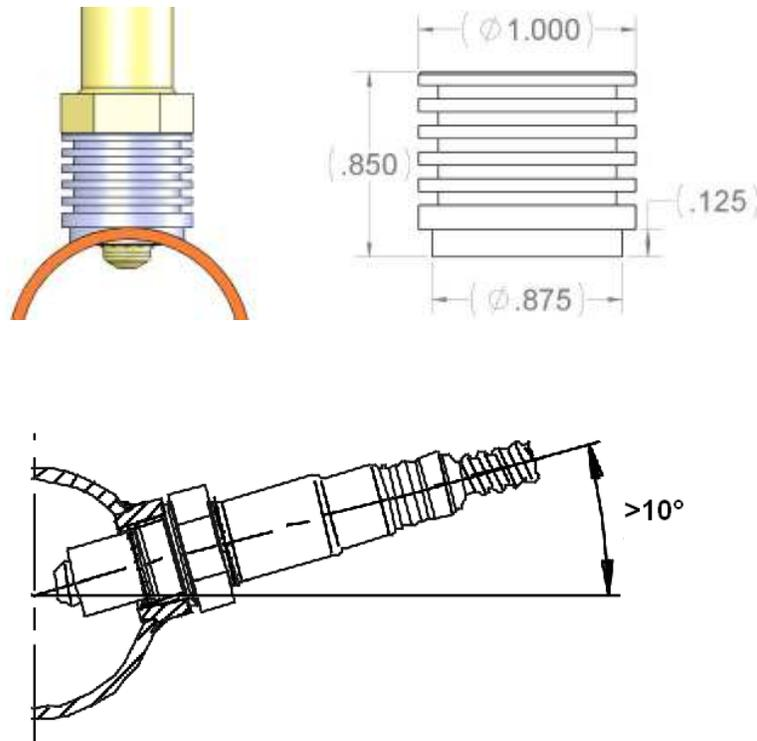

FIGURE 2. Sensor Bung and Sensor Mounting
4. Mount the UEGO sensors as shown in figure 2.
A high flow stainless steel weld-in sensor bung is supplied for sensor installation (additional sensors & bungs are available 30-2063). The bung is specifically designed so the sensor can provide accurate AFR readings with minimal flow intrusion and survive extreme exhaust gas temperatures. Pick a mounting location(s) that allows for easy access to the sensor(s). The sensor tip must be exposed to exhaust gas in order to give accurate AFR readings. For thin wall tubing, drill a 15/16" hole and weld in the bung. For thick wall tubing/ castings, drill a 1 1/16" hole and weld in the bung. The sensor must be mounted at an angle of at least 10 degrees from horizontal in order to prevent liquids from collecting in the sensor housing. See Figure 2 below. **NOTE: THE OPTIONAL AEM EBP (EXHAUST BACK PRESSURE) KIT (PART # 30-2064) MUST BE USED IF SENSORS ARE MOUNTED PRE-TURBO.**